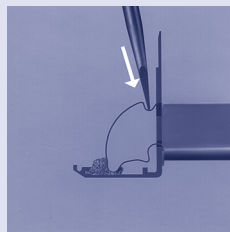

Fig. 4
- Fig. 4 Use screwdriver for clamping thickness 0-4 mm.